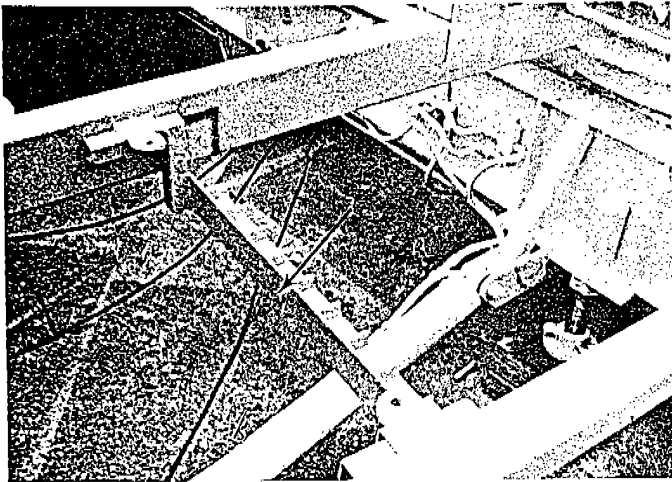

Fig. 61
- a. Remove the lower section of the rack and store under the ride. (Refer to Fig. 61)
- Install the lower rack section in the square sockets on the rotating platform frame bars. The rack section hangs below the frame bars, with racking slots facing the center cone. (Fig. 61)